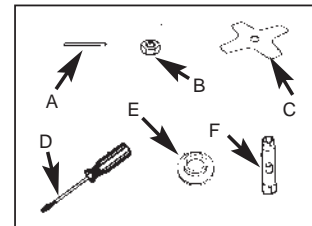

Fig. 6A
1. To install the blade you will need the items illustrated above (screwdriver not provided): holding pin (A), retaining nut (B), blade (C), screwdriver (D), flange (E), socket wrench (F) (Fig. 6A)